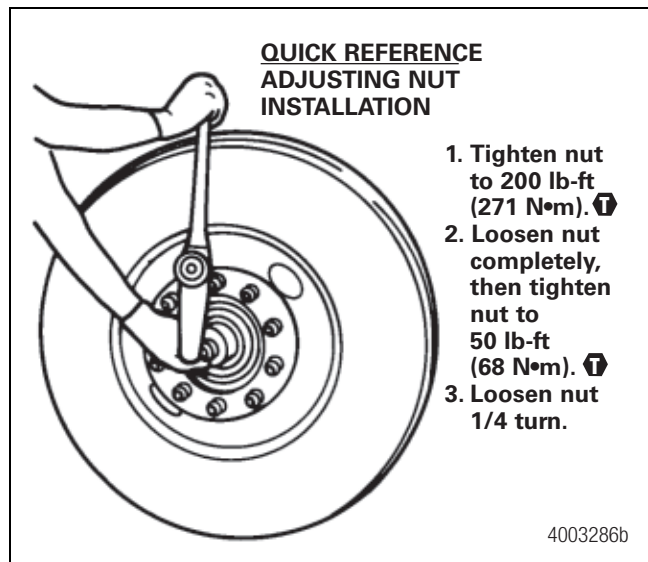

Figure 10.5
1. Install the adjusting nut so that the pin on the nut faces away from the wheel-end equipment. Tighten the nut to 200 lb-ft (271 N•m) while rotating the wheel end in both directions. Figure 10.5. ⚙